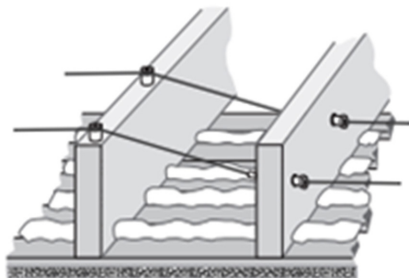

Figure 1. Knob and tube wiring
2. **Electrical.** Check all wiring and electrical junction boxes to assure wiring is not exposed and boxes are appropriately covered. Many old homes have a two-wire system referred to as “knob and tube wiring” (*Figure 1*). This type of wiring should not be covered with insulation.